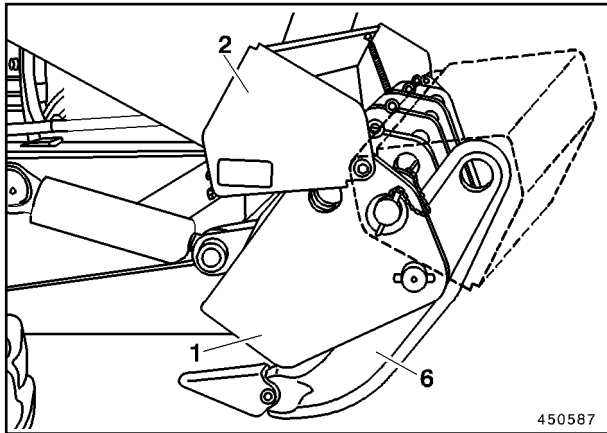

Fig. 9
- When the rear ripper is attached (1, Fig. 9) bring teeth (6) to transport position. Fold tooth protection (2) over tooth ends.